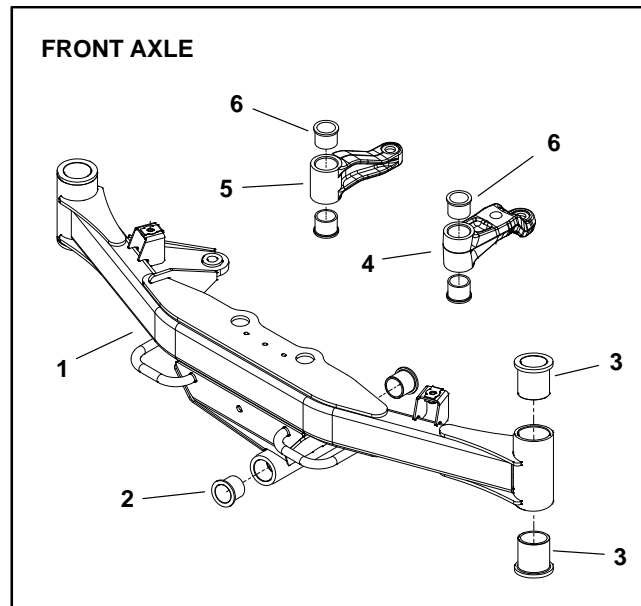
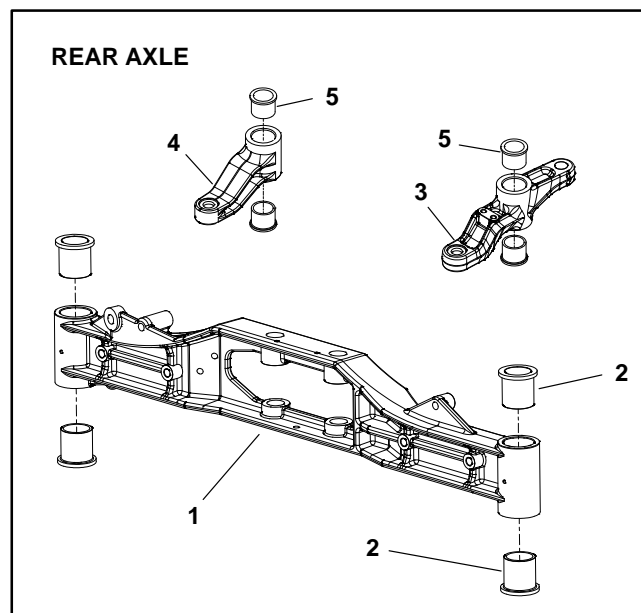

Figure 38
Figure 39
Bushings in the front axle (Fig. 38) or rear axle (Fig. 39) assembly can be replaced using the following procedure.
NOTE: Bushings in steering arms (item 6 in Fig. 38 and item 5 in Fig. 39) may require reaming after installation. If reaming tools are not available, replace arm assembly which has bushings installed and properly sized.